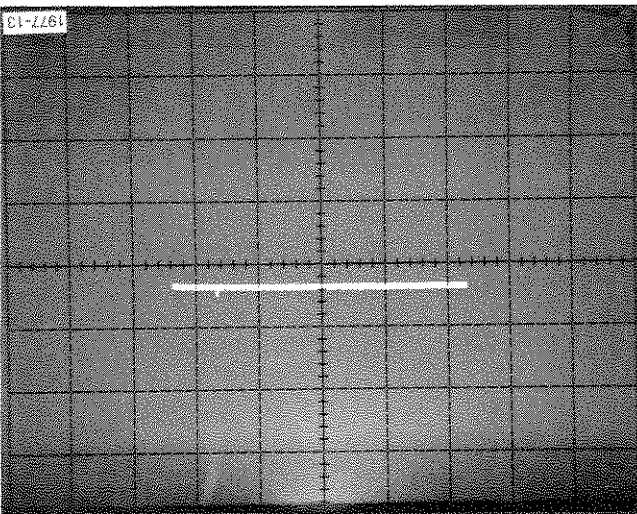

Fig. B-2. + Input bias current display.
- Check that the input current does not exceed 30 nA (3 vertical divisions, see Fig. B-2).